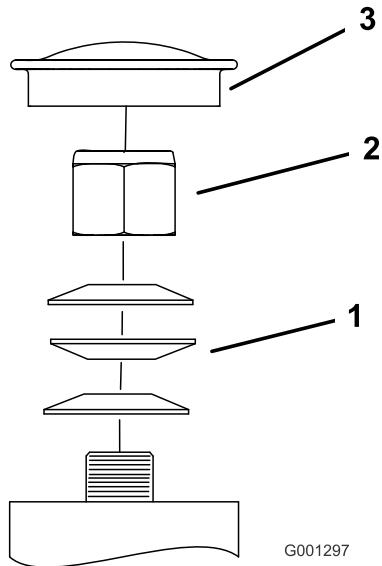

Figure 57
3. Remove the dust cap from caster and tighten lock nut (Figure 57).
4. Tighten the locknut until the spring washers are flat and then back off a 1/4 turn to properly set the pre-load on the bearings (Figure 57).
5. Install the dust cap (Figure 57).
Important: Make sure spring washers are installed correctly as shown in Figure 57.